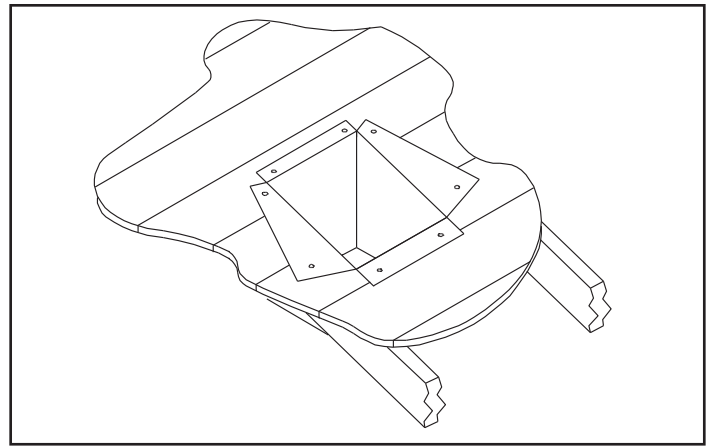

Figure 7.10
- Use tin snips to cut the support box from the top corners down to the roof line and fold the resulting flaps to the roof, Figure 7.10.